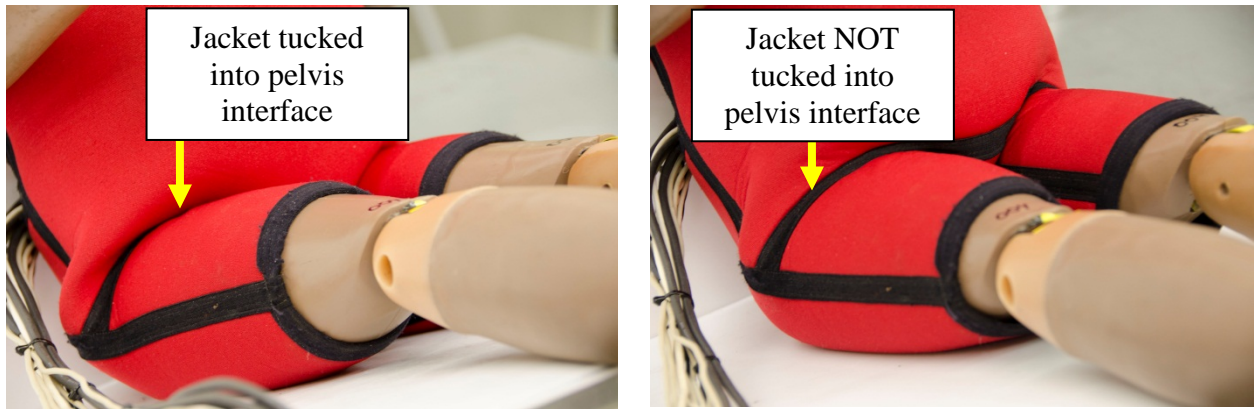

Figure 64. Ensure that jacket is not tucked into pelvis/femur interface
- Ensure that the jacket is not tucked into the pelvis/femur interface during the setup procedures (Figure 64). If it is, pull the suit upwards near the shoulders.